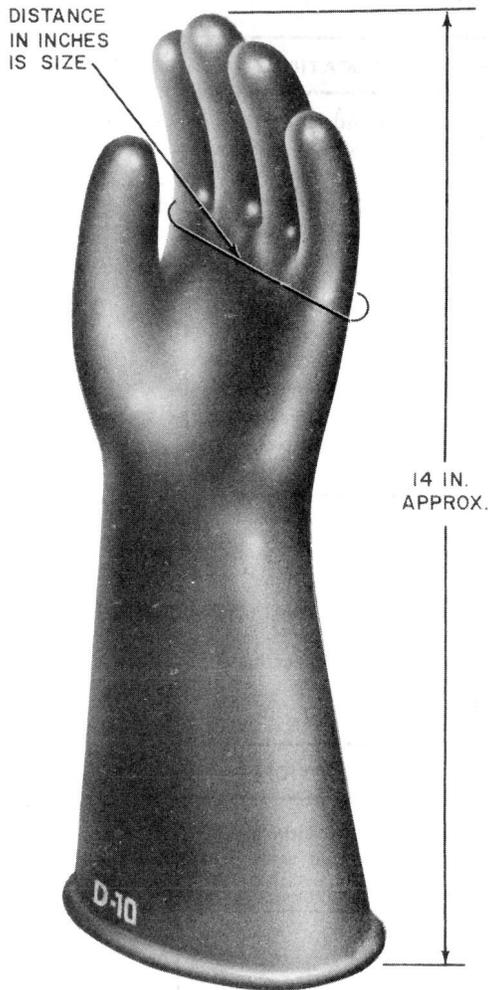

Fig. 1—E Insulating Glove
3.01 All insulating gloves are ◆the straight cuff◆ type. Sizes 9-1/2, 10, 11, and 12 are ◆in use◆ in types B, C, D, E, and F. A smaller glove, size 8, is now available in types D, E, and F. The size is equal to the approximate number of inches around the glove measured as shown in Fig. 1. The length of each glove, measured from the tip of the second finger to the outer edge of the gauntlet, is approximately 14 inches (Fig. 1).